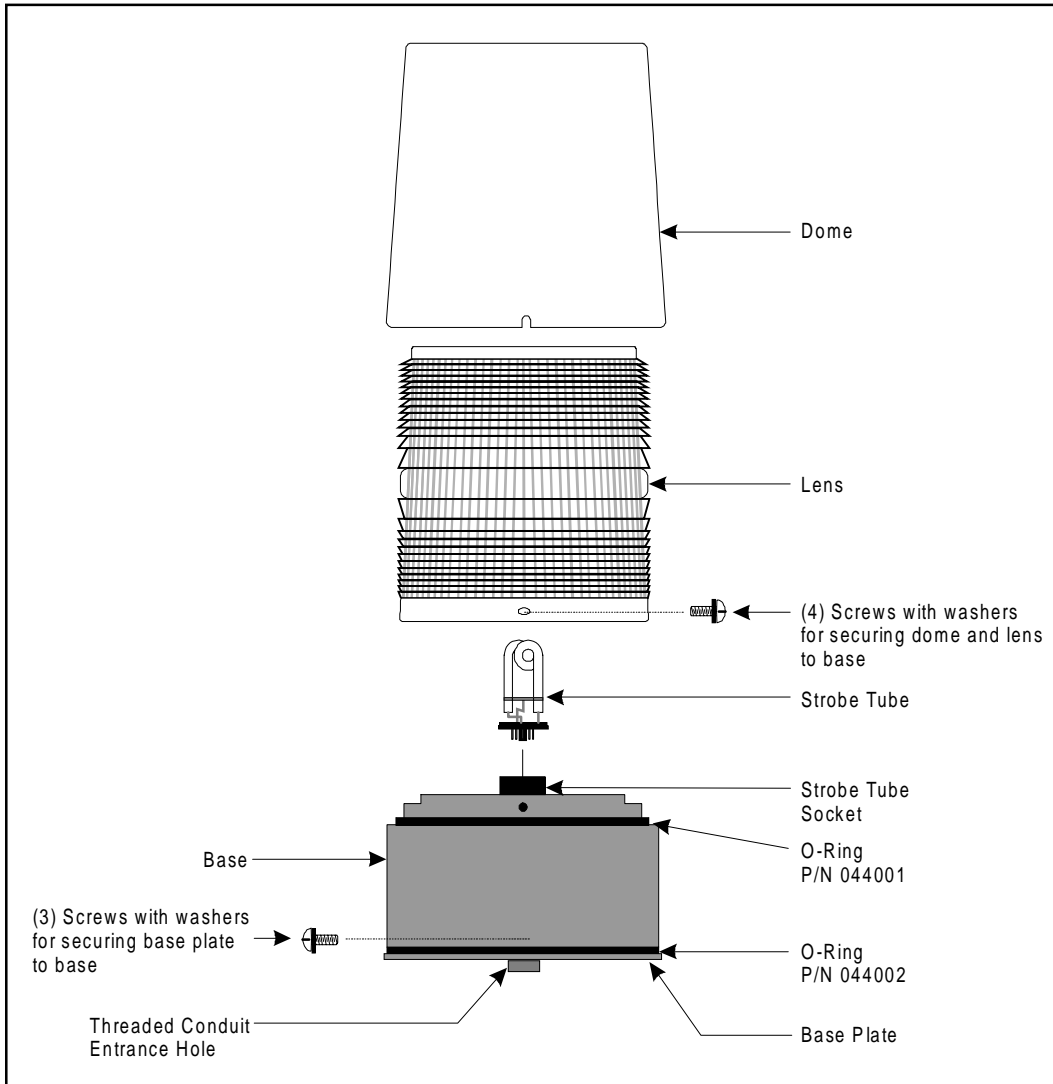

Figure 2. Replacing the Strobe Tube
1. Remove the four (4) screws from the lens assembly and remove the globe and lens as shown in Figure 2.
- a. Ensure that the o-ring, part number 044001, is in place around the base of the unit and replace the lens and dome (Figure 2).
b. Install four (4) screws removed in step 1.